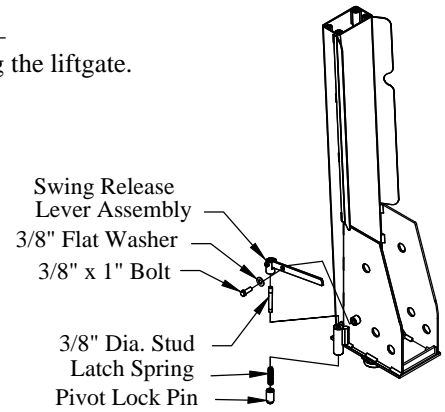

Figure 5: Swing release latch.
1. **Install** the swing release latch assembly (Figure 5). This must be done before mounting the liftgate.